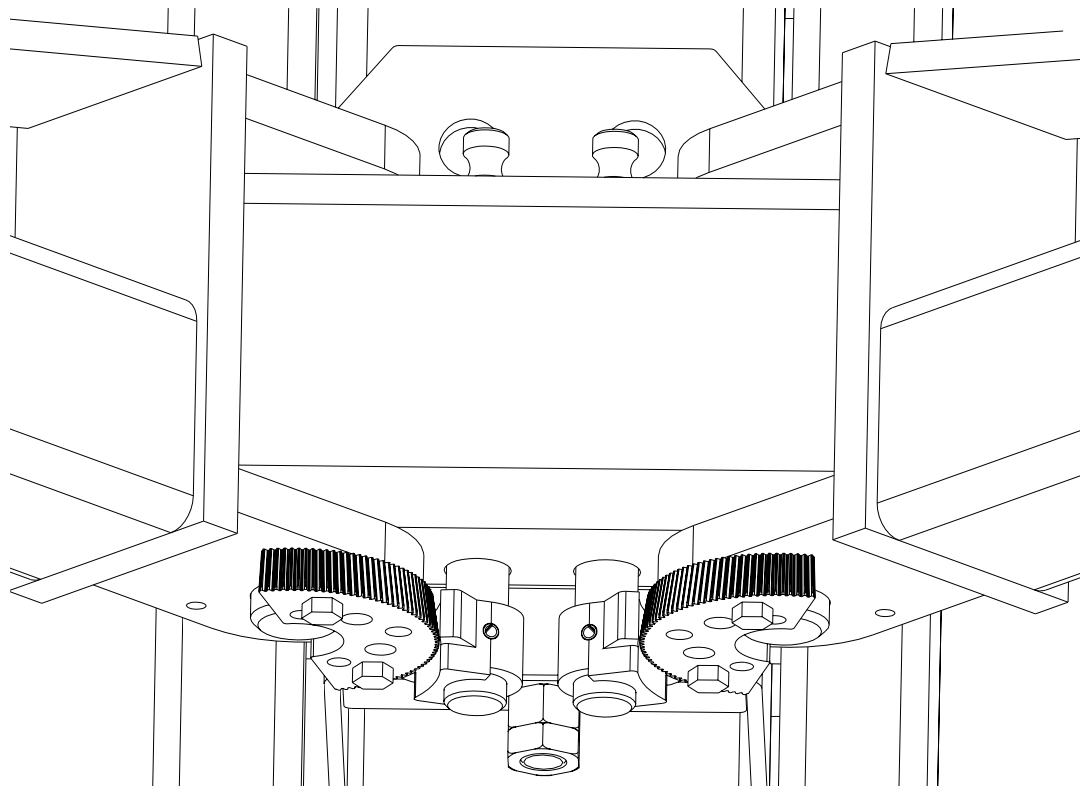

Figure 16
- B. Position the gears with word TOP against the bottom of the arms in the orientation shown in figure 16. Attach the gears to the arms with (2) 3/8-16NC X 1-1/2 long HHCS. Do not tighten at this time.
- C. Raise the lift **empty** to the top of its travel and lower it the floor three (3) times to remove the remaining air from the hydraulic system.